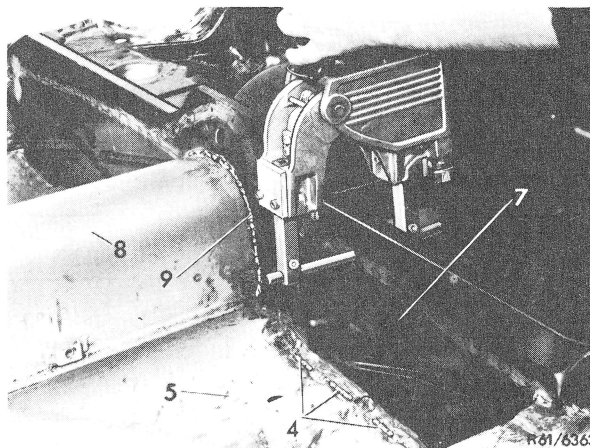

Fig. 5
14 Spot weld cross member inner shell (7) to cross member outer shell (Fig. 5).
16 Connect tunnel (8) to cross member inner shell (7) by means of continuous weld (9) (Fig. 5).